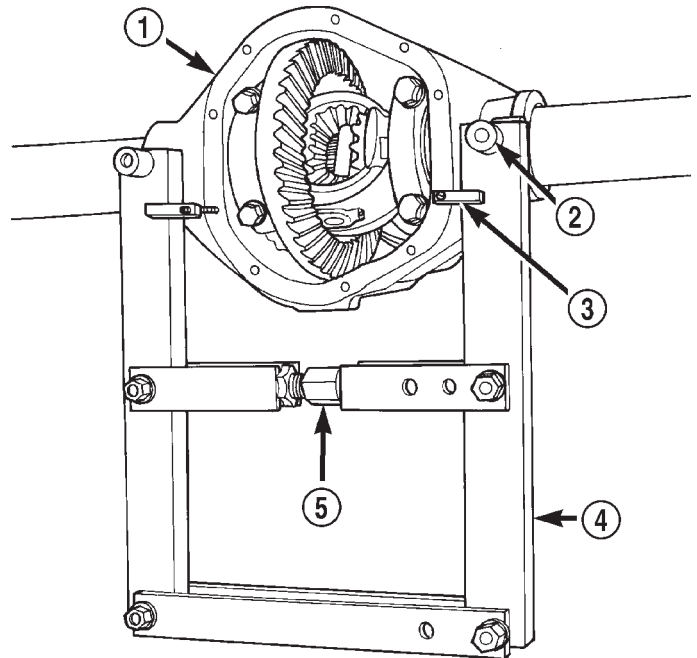

Fig. 33 Install Axle Housing Spreader
(1) Position Spreader W-129-B, utilizing some items from Adapter Kit 6987, with the tool dowel pins seated in the locating holes (Fig. 33). Install the holddown clamps and tighten the tool turnbuckle finger-tight.